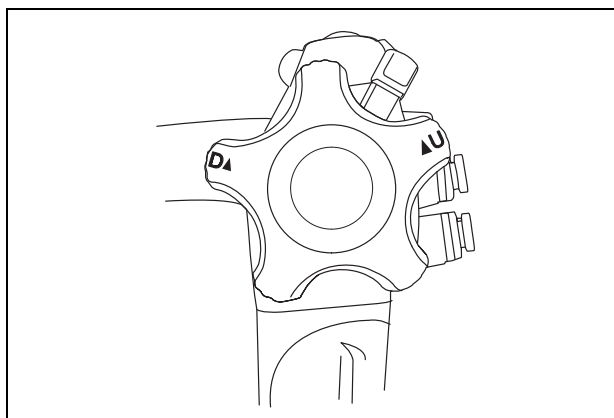

Figure 3.8
4. When the UP/DOWN angulation control knob is turned to its neutral position as shown in Figure 3.8, confirm that the bending section returns smoothly to an approximately straight condition (for GIF-N260 only).